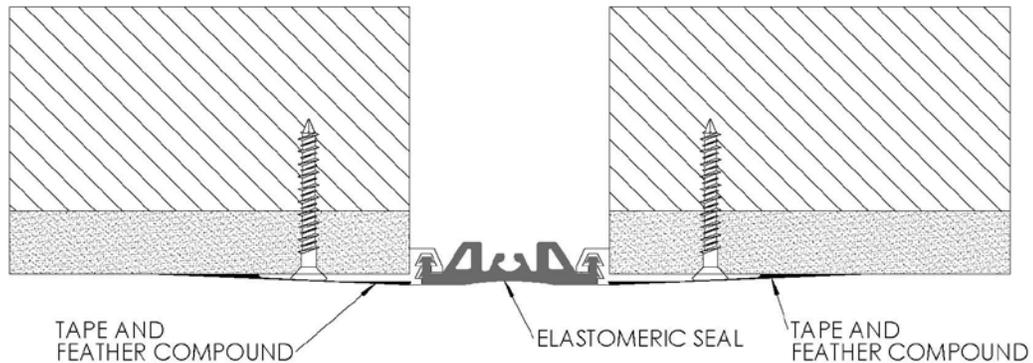

FIGURE 3
3. Protect the elastomeric seal with tape and feather joint compound (by others) over the exposed aluminum frames and onto the gypsum wallboard. Remove tape after wall or ceiling has been finished. **See Figure 3**